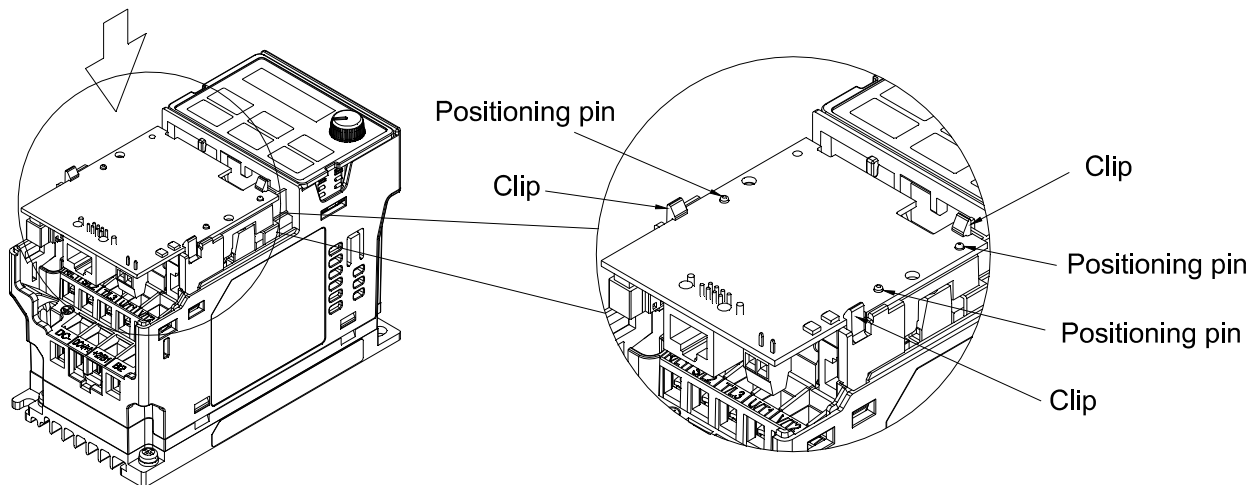

Fig. 8-4
- After the wiring is completed, loosen the option card of the front mounting, and reverse-mounted, aim the three holes at the positioning pin, press the pin to clip the holes with the option card. (shown in Fig. 8-4)